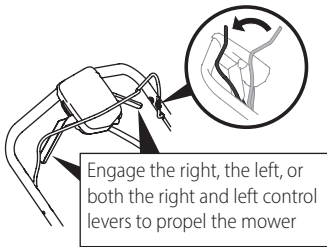

Figure 14
1. Once the engine is running and while continuing to hold the blade control down, squeeze either (or both) drive controls against the upper handle to propel mower (Figure 14).